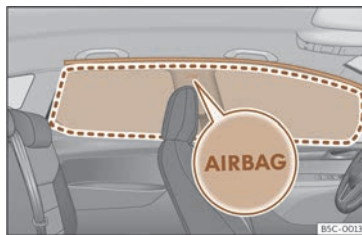

Fig. 34 Location of head-protection airbags.
>>> **Fig. 34** and their location is indicated with the word "AIRBAG".
The framed area is covered by the head-protection airbag when it is deployed (deployment area) >>> **Fig. 34**. Therefore, objects should never be placed or mounted in this area >>> ⚠.
- Ensure that children are correctly seated in their seats and that their heads are not in the deployment zone of the head airbags >>> **Fig. 34**, as deploying airbags could hit them and cause serious injury.